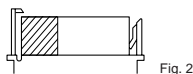

Fig. 2
(1) Remove the relay straight from the socket holding the shaded portion of the relay as shown in Fig. 2.